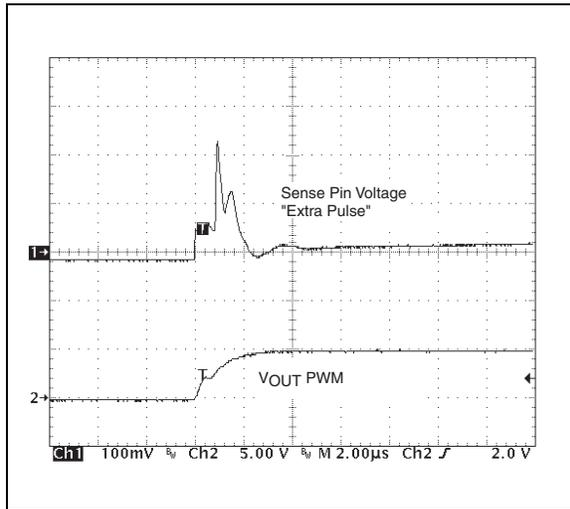

**FIGURE 7-9:** Four Current Pulses Per Revolution Fan.
**Example:** The full speed fan RPM rating is 8200 RPM. From this, the time for one fan revolution is calculated to be 7.3 msec, using the previously discussed equation. Using a current probe, the fan current can be monitored as the fan is operating at full speed. Figure 7-9 shows the fan current pulses for this example. The 7.44 msec window, marked by the cursors, is very near the 7.3 msec calculated above and is within the tolerance of the fan ratings. Four current pulses occur within this 7.44 msec time frame. Given this information, FPPR (bits 2-1<01>) in the Configuration Register should be set to '10' to indicate 4 current pulses per revolution.
This problem occurs mainly with fans that have a current waveshape like the one shown in Figure 7-9. For configurations where an NPN transistor is being used as the external drive device, the typical  $R_{SENSE}$  and  $C_{SENSE}$  scheme can continue to be used to sense the fan current pulses. In order to eliminate the extra current pulse, a slow down capacitor can be placed from the base of the transistor to ground. A  $0.1 \mu\text{F}$  capacitor is appropriate in most cases. This arrangement is shown in Figure 7-11. This capacitor will help to slow down the turn-on edge of the transistor and reduce the amplitude of the extra current pulse.